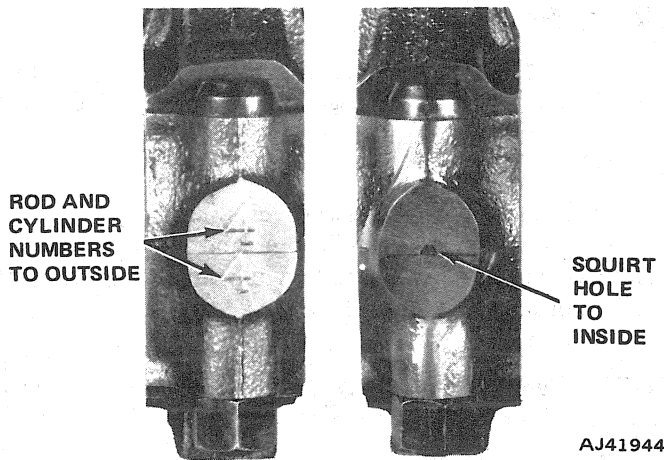

Fig. 1B-130 Rod Number and Squirt Hole Location
- (1) Thoroughly clean cylinder bores. Apply light film of clean engine oil to bores with clean, lint-free cloth.
- (2) Arrange spacing of piston ring gaps. Refer to Piston Rings for procedure.
- (3) Lubricate piston and ring surfaces with clean engine oil.
- (4) Use piston ring compressor tool to install connecting rod and piston assemblies through top of cylinder bores. Ensure that connecting rod bolts do not scratch connecting rod journals or cylinder walls. Short lengths of rubber hose slipped over connecting rod bolts will provide protection during installation.
**NOTE:** Squirt holes in connecting rods must face inward (fig. 1B-130).
- (5) Install connecting rod bearing caps and inserts in original positions. Tighten retaining nuts with 33 foot-pounds (45 N•m) torque.
- (6) Install engine oil pan using replacement gaskets and seals.